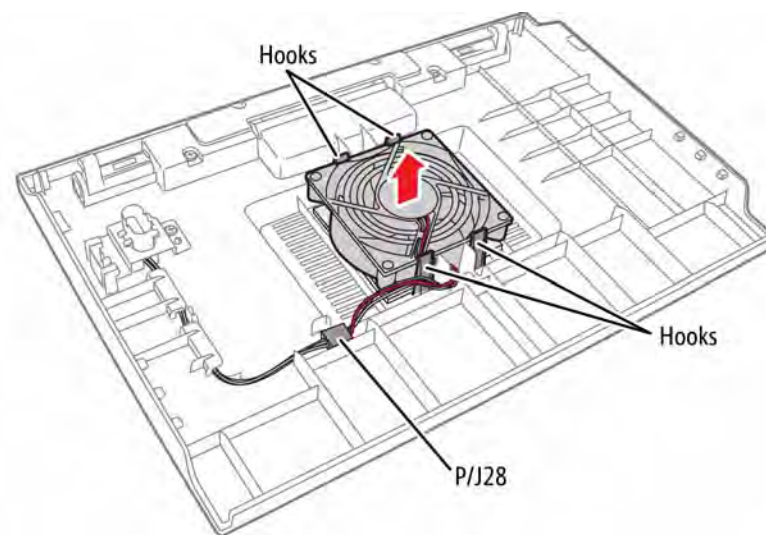

Figure 2 Remove the Rear Door fan
4. Disconnect P/J28 and release 4 hooks that secure the Fan to the door, Figure 2.